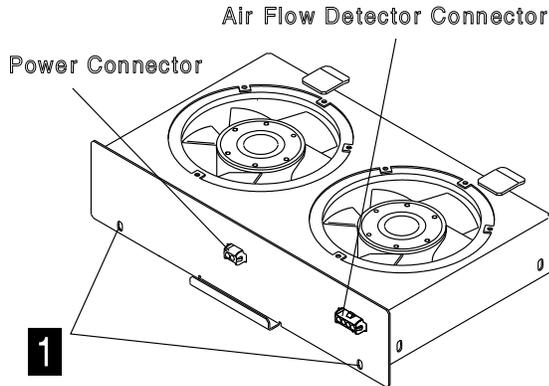

Figure 4-107. Fan2 Air Flow Detector and Power Connectors
12. At Fan2, disconnect the air flow detector cable and the power cable. Refer to Figure 4-107.
16. Install the Fan2 assembly in the frame and fasten it with the two screws **1**. Refer to Figure 4-107 on page 4-79.